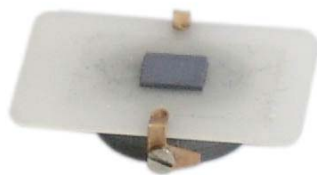

Fig. 10-3. Sapphire substrate on the sample stage
4. Place the sapphire substrate with the sample on the sample stage. Insert the substrate from the side of two support balls under the spring clips so that the clips secure the substrate while the substrate bottom is supported by the three support balls (see Fig. 10-3). If a metal substrate is used, skip this step and go to i. 5.